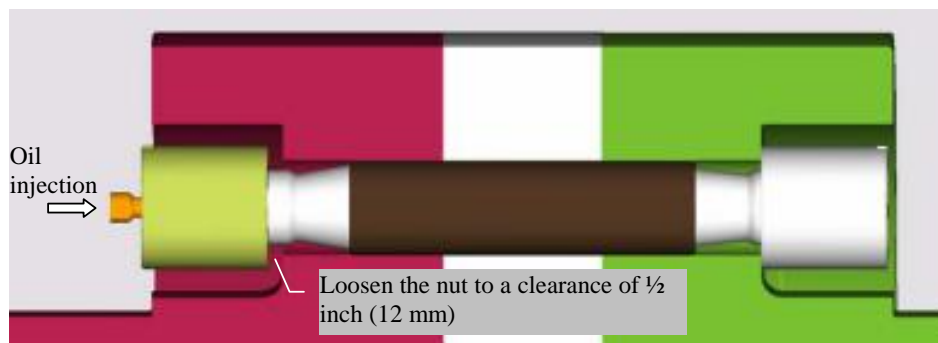

fig. 13.2
14.2.1 Loosen the nut to a clearance of 1/2 inch (12 mm) between the nut and the flange. (fig 13.2)